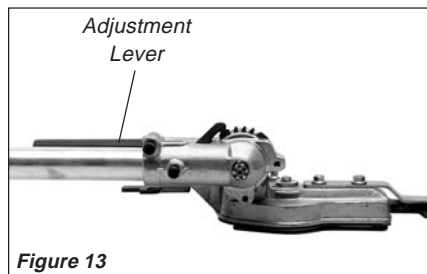

Figure 13
3. While holding the latch lock down, pivot the cutter assembly using the adjustment lever until it is straight with the outer tube (pivot 180°). See Figure 13.